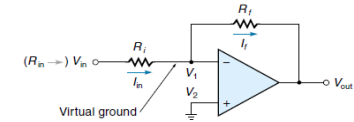

Figure 7.6 The inverting amplifier circuit.
- Figure 7.6 shows this: The right end of R_i is at virtual ground; therefore, the entire V_{in} is "dropped" across R_i .